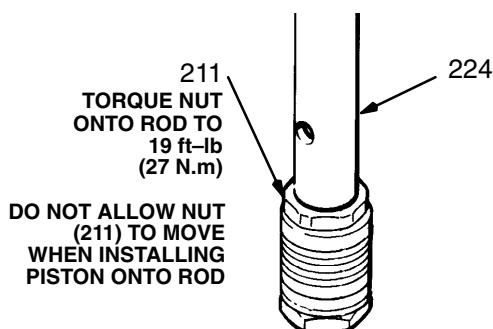

Fig 35-2
7. Use a wrench to **CAREFULLY** tighten the nut (211) onto the piston rod to 19 ft-lbs (25 N.m). *Refer to Fig 35-2.*